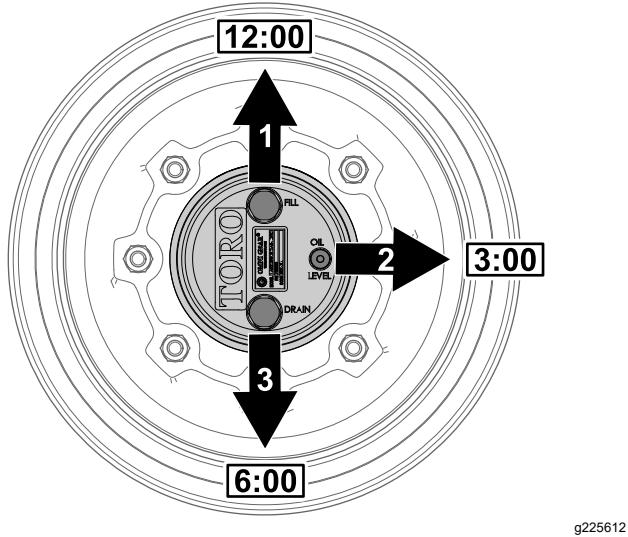

Figure 137
1. Park the machine on level surface, position the wheel so that the fill plug is at the 12 o'clock position, the check plug is at 3 o'clock position, and the drain plug is at the 6 o'clock position (Figure 137).
2. Remove the check plug at the 3 o'clock position (Figure 137).
1. Park the machine on level surface, position the wheel so that the fill plug is at the 12 o'clock position, the check plug is at 3 o'clock position, and the drain plug is at the 6 o'clock position; refer to Figure 137 in Checking the Planetary Gear-Drive Lubricant (page 74).